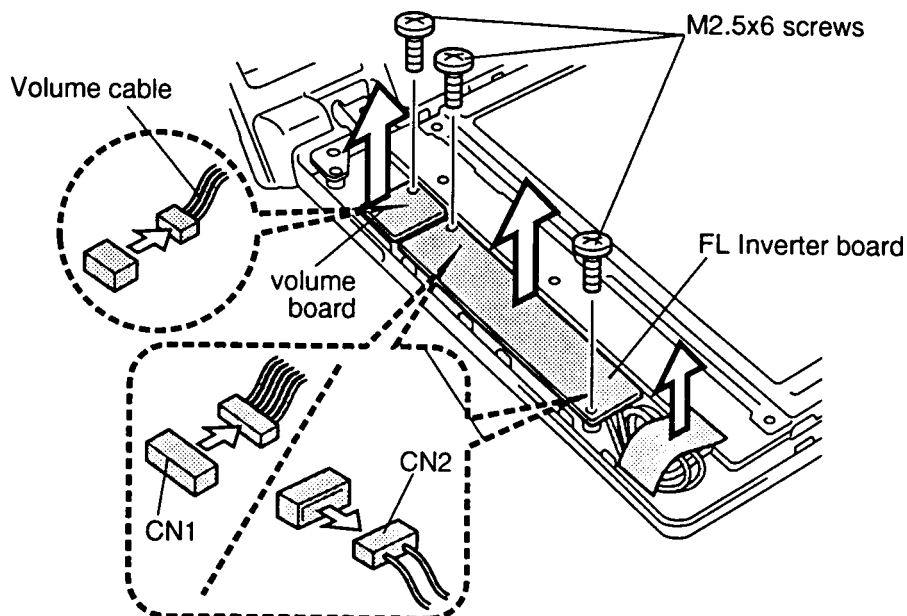

Figure 4-22 Removing the FL inverter and volume board
To remove the T2110CS/T2130CS's FL inverter board, follow the steps below and refer to figure 4-22.
3. Remove the **two M2.5x6 screws** securing the **FL inverter board** (figure 4-22).
4. Carefully rotate the **FL inverter board** from left to right and disconnect the **FL cables** and **FL inverter cable** from **CN1** and **CN2** on the FL inverter board (figure 4-22).
6. Remove **one M2.5x6 screw** securing the **volume board** (figure 4-22).
7. Disconnect the **volume cable** from the connector on the **volume board** (Figure 4-22).
To install the T2110CS/T2130CS's FL inverter board, follow the steps below and refer to figure 4-22.
1. Connect the **volume cable** to the volume board (figure 4-22).
2. Secure the **volume board** with **one M2.5x6 screw** (figure 4-22).
3. Connect the **FL inverter cable** and **FL cable** to **CN1** and **CN2** on the FL inverter board (figure 4-22).
5. Secure the **FL inverter board** with **two M2.5x6 screws** (figure 4-22).